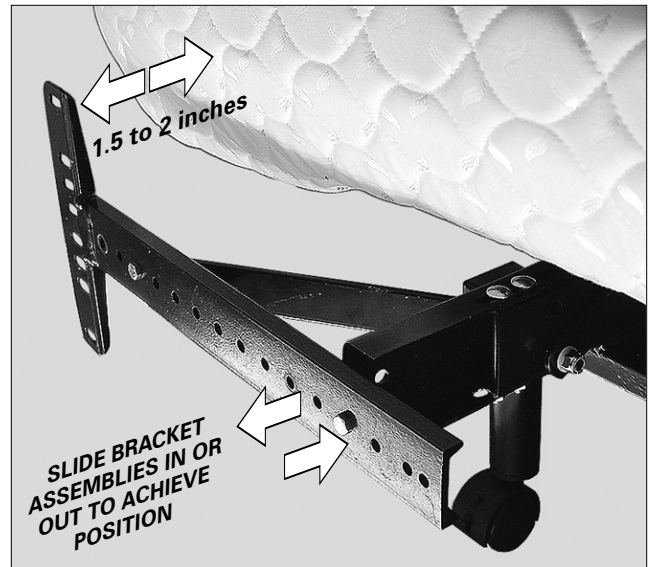

FIGURE 11: Headboard bracket position from the edge of the bed base frame.
d. Slide headboard bracket assemblies (in or out) to achieve a distance of 1.5 inches (38.1mm) to 2 inches (50.8mm) between the edge of the bed base and headboard bracket flange assemblies (**FIGURE 11**).